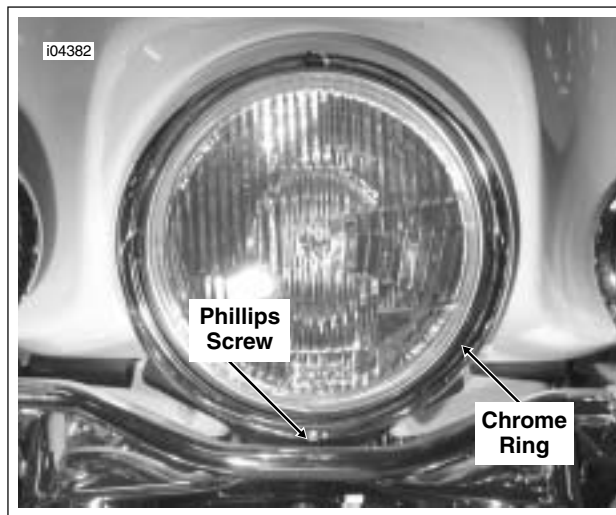

Figure 8-3. Remove Headlamp Door (FLHTP)
2. See Figure 8-3. Remove the Phillips screw at the bottom of the headlamp door (chrome ring). Remove the headlamp door.
13. See Figure 8-3. Fit the square-shaped portion of the headlamp door spring into the slot at the top of the headlamp housing and then snap the headlamp door (chrome ring) into place. Install the Phillips screw at the bottom of the headlamp door.
19. Fit the square-shaped portion of the headlamp door spring into the slot at the top of the headlamp housing and then snap the headlamp door (chrome ring) into place. Install the Phillips screw at the bottom of the headlamp door. See Figure 8-3.